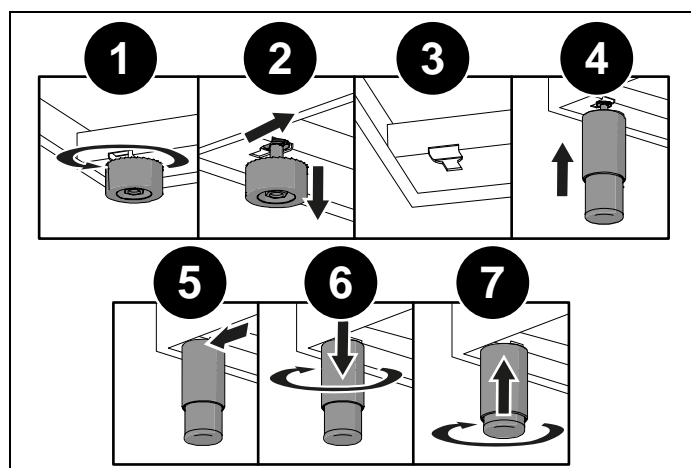

Fig. 4
- remove the supports (1 and 2, Fig. 4 ),
- fit the feet into the keyhole in the underside of the appliance (3 and 4, Fig. 4 ),
- screw the feet down until they are securely fixed to the base (5 and 6, Fig. 4 ),
Adjust the feet to the correct height (7, Fig. 4 ).
When lowering the appliance, do not maintain the pressure on the feet (Fig. 4 ). Use a shim underneath the base or a pallet to avoid tilting the cooker.